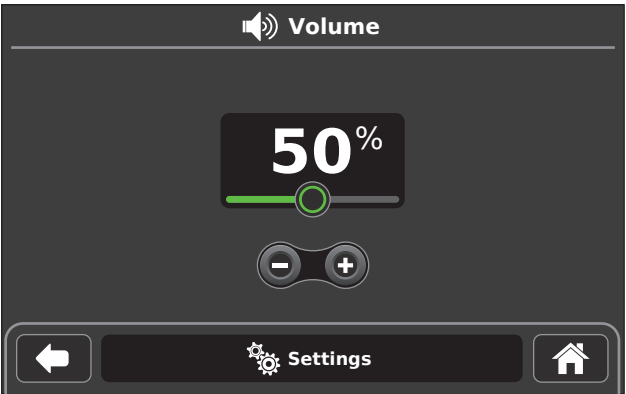

Figure 28 – Volume Screen
3. To adjust the audio speaker’s VOLUME value, touch the INCREASE (plus) button or DECREASE (minus) button or adjust the slider bar (Figure 28).